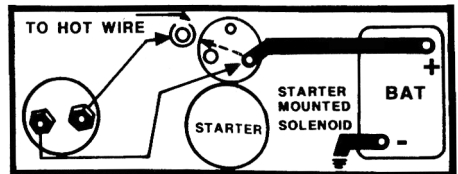

Figure 3
1. Mount the ammeter where desired and route the wires from the ammeter through the vehicle firewall to the hot wire at the starter solenoid, as shown in Fig. 3.